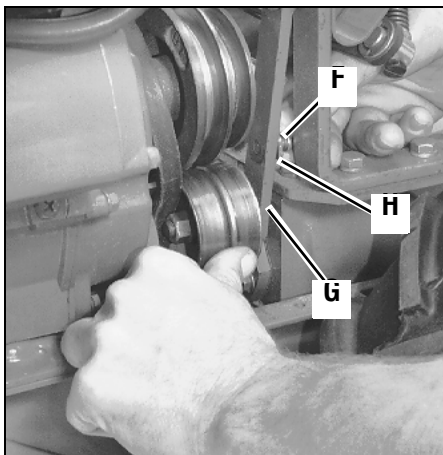

Figure 5-11: Remove clevis pin from outer hole in forward adjustable link and move to inner hole in link.
6. On the **left** side of the unit (from operator's position) remove the hairpin cotter from the clevis pin (F, Figure 5-11) that connects the forward idler arm (G) to the forward adjustable link (H). Push inward on the forward idler arm (G) and remove the clevis pin (F).
7. There are two holes in the forward adjustable link (H, Figure 5-11). Push inward on the forward idler arm (G) and install the clevis pin (F) through the **inner** hole in the forward adjustable link (H) and out through the single hole in the forward idler arm (G). Secure the clevis pin with the hairpin cotter.